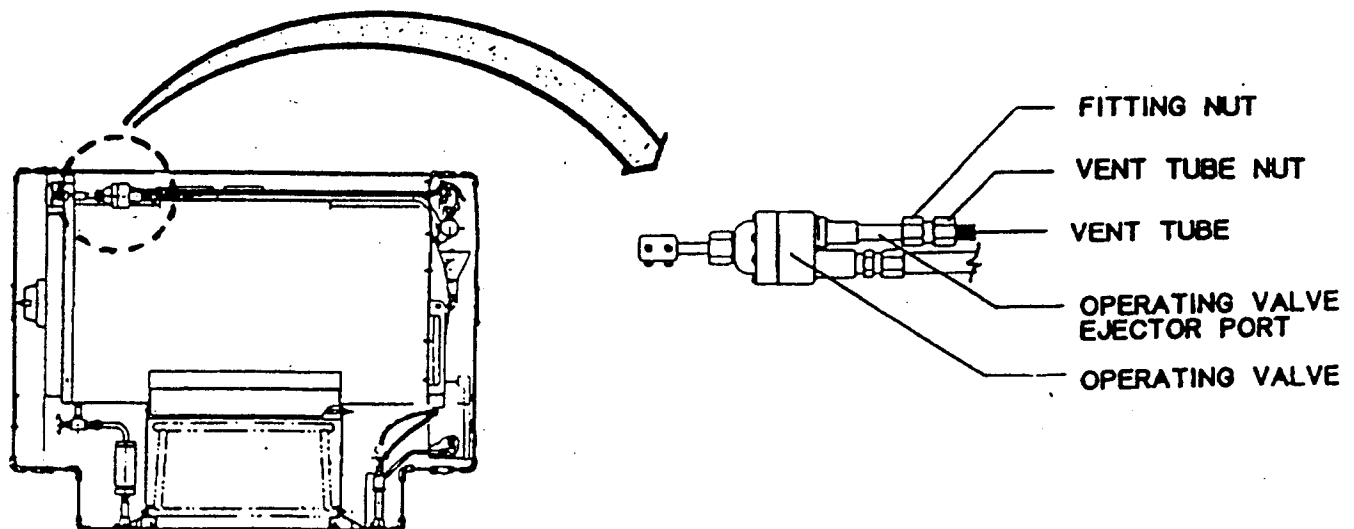

Figure 2-6. Vent Tube Removal.
g. Operating valve modifications: Remove the vent tube nut and vent tube from the operating valve (figure 2-6). Remove the fitting nut from the operating valve ejector port and apply teflon tape to the pipe threads on the port.